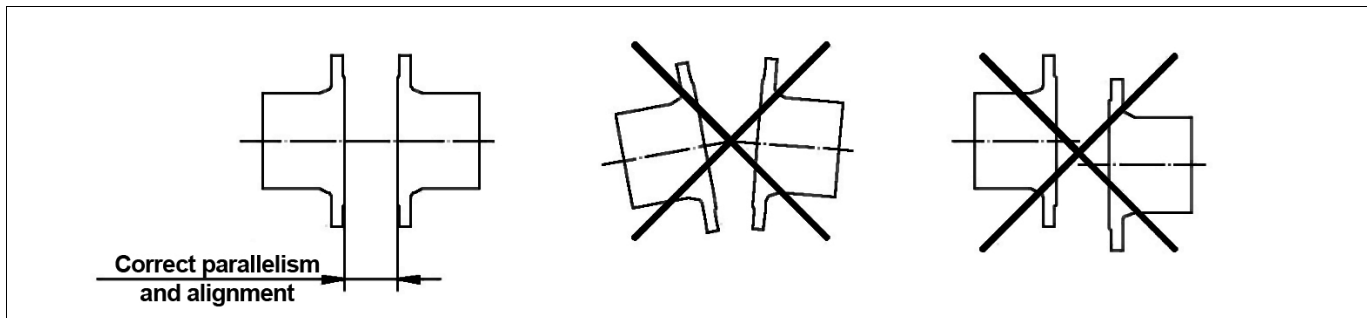

Fig. 1
- Special care must be taken to respect the correct distance (gap) between the flanges and ensure they are correctly aligned and parallel (Fig. 1).